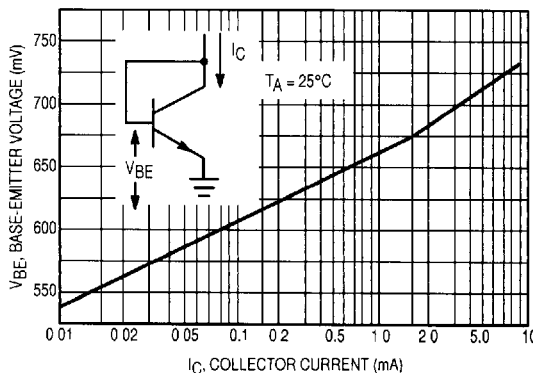

Figure 2. Base-Emitter Voltage versus Collector-Emitter Current
5. For maximum temperature accuracy, I_C should not exceed 2 mA. (See Figure 2)